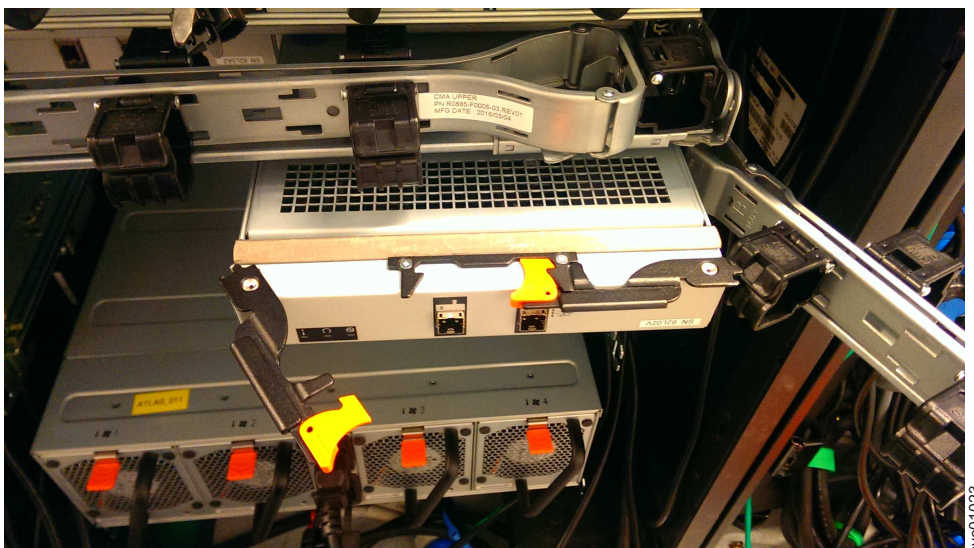

Figure 41. Install the expansion canister
1. Disconnect the elbow of the lower cable management arm to swing it out of the way, as shown in Figure 41 on page 63.
4. When the expansion canister is fully inserted, rotate each handle inward to lock it into position, as shown in Figure 41 on page 63.